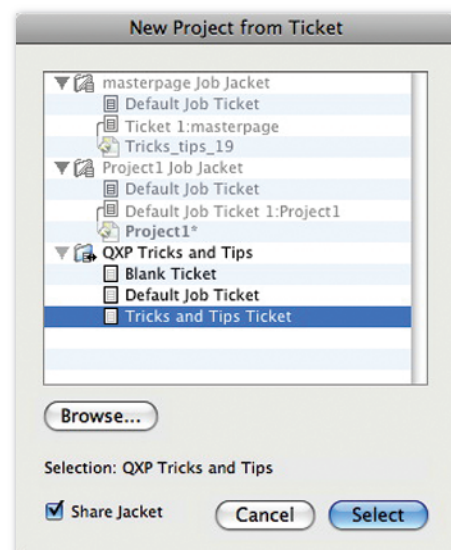

Figure 15
- 3** Go to **FILE ▾ NEW ▾ PROJECT FROM TICKET**. After doing that, a mini jacket viewer pops up. Since we were just working on a jacket and ticket, the ticket we want is already open. If our jacket isn't listed here, browse to and select the ticket you have created. In figure 15 you can see that I have one jacket open, and my ticket is displayed.
So let's take a look at what has happened. When I click the select button shown in figure 15, QuarkXPress 8 read the job ticket that I created, made note of all of my resources, and simply built my layout exactly as I specified.